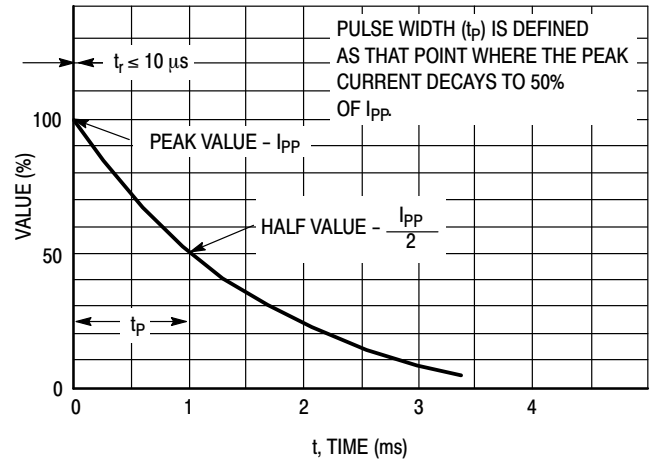
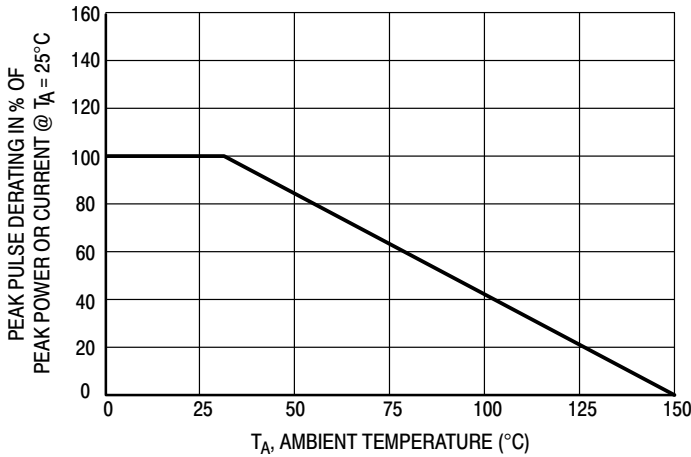

Figure 2. Pulse Waveform
Figure 3. Pulse Derating Curve
8. Surge current waveform per Figure 2 and derate per Figure 3 of the General Data – 1500 Watt at the beginning of this group.